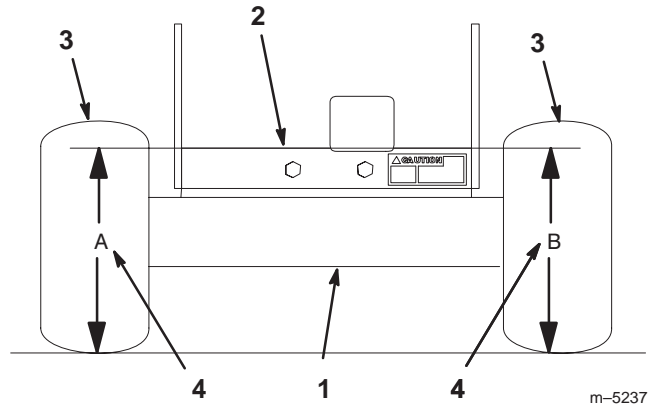

Figure 49
3. Measure engine deck height at location **A** (Fig. 49).
4. Measure engine deck height at location **B** (Fig. 49).